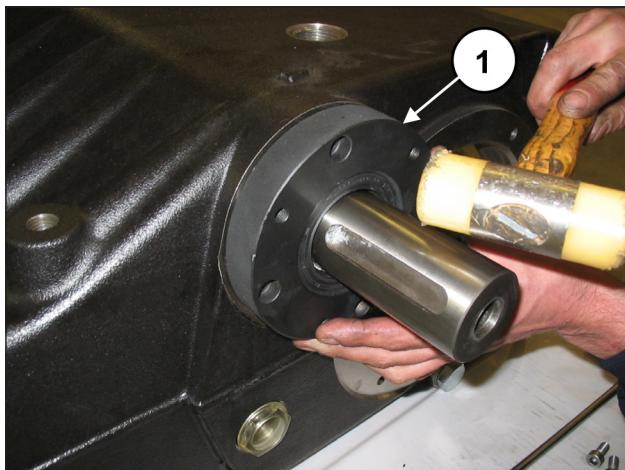
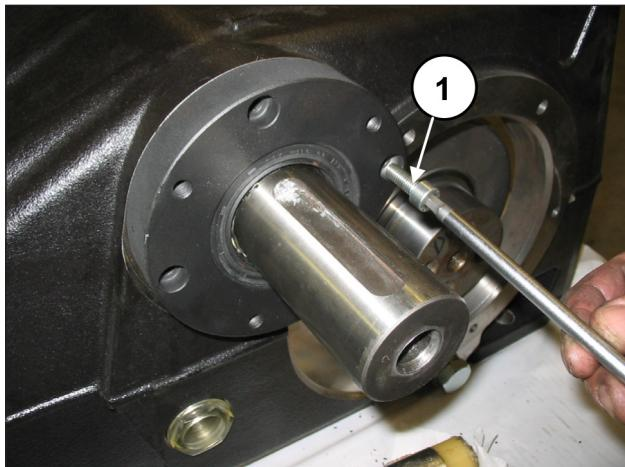

Fig. 67
Fig. 68
Mount one of the PTO bearing covers (left or right) fitted with seal ring on the pump casing using the tool code 27539500 (pos. ①, Fig. 67) and fasten it with 4 M8x30 screws (pos. ①, Fig. 68).
Mount the missing PTO bearing cover on the pump casing (pos. ①, Fig. 67) and fasten it with 4 M8x30 screws (pos. ①, Fig. 68).